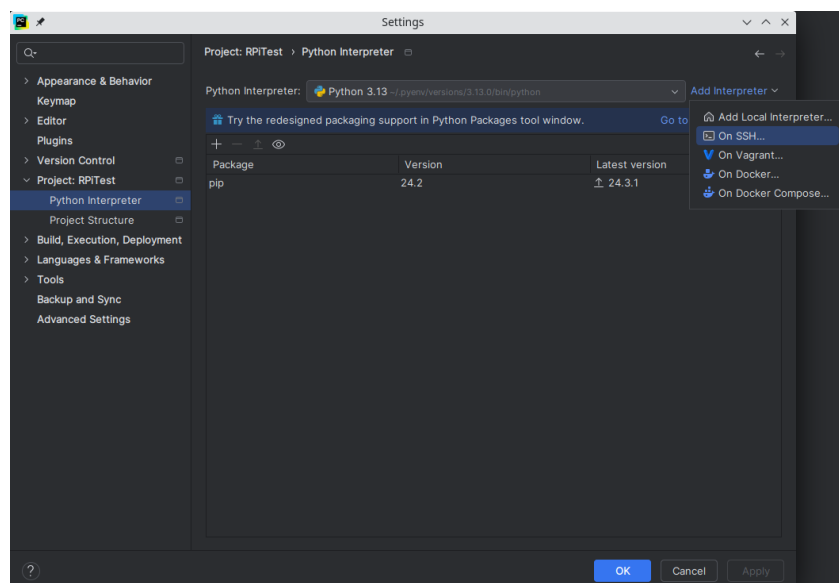

Figure 10: PyCharm SSH Interpreter
5. Currently the project is set up to fully run on your computer. We'll switch to a remote python interpreter on your RPi. This makes the code run on the RPi, while letting you edit the code on you computer. You'll also be able to see the code outputs in your PyCharm terminal. Let's create a new virtual environment (if you don't know what virtual environments are, read the introduction on this page to get an idea why they're useful) on the RPi and change the project settings to use this newly created environment. Starting in the top navigation bar (you can permanently enable it via Hamburger menu > View > Appearance > Show Main Menu in Separate Toolbar), click **File > Settings > Project: Project name > Python Interpreter > Add Interpreter > On SSH....** A window pops up to configure your SSH interpreter. See Figure 10. Select **New SSH connection**